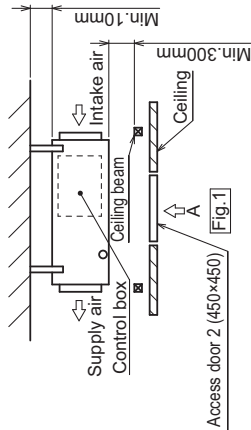

Fig.2 (Viewed from the direction of the arrow A)
- Create access door 1 and 2 (450×450mm each) as shown in Fig.2.